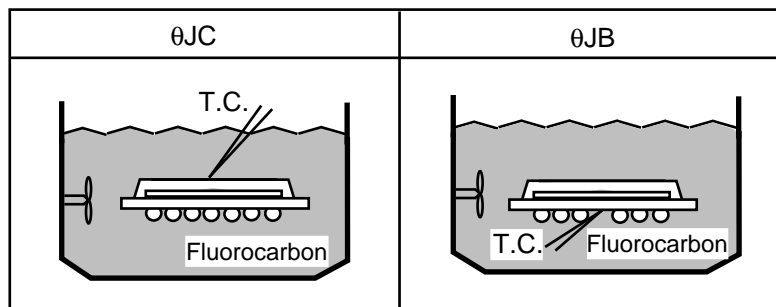

Fig.1 Definition of measurement
5. θ_{JC} is measured at the center of mold surface in fluorocarbon.(See Fig 1.)
6. θ_{JB} is measured on the center ball pad after removing the ball in fluorocarbon. (See Fig 1.)